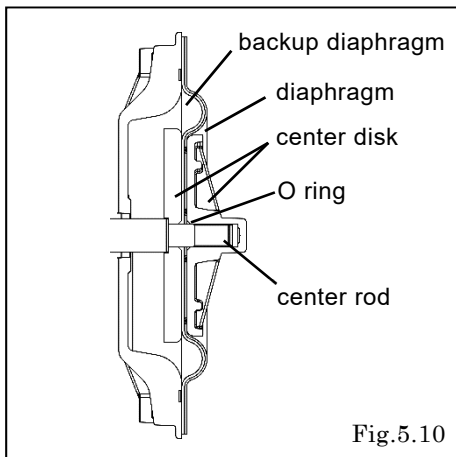

Fig.5.10
- Put the O ring to outside of the diaphragm. <Fig.5.10>